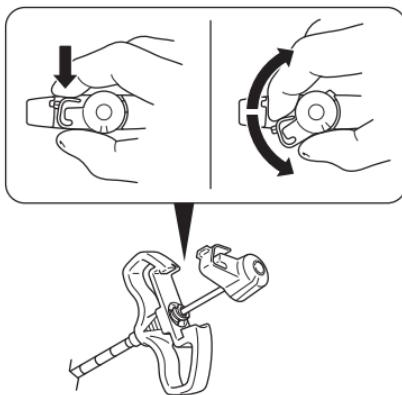

Figure 2 – Remove the Stylet from the Access Cannula
- Unlock and remove the stylet from the access cannula (figure 2).